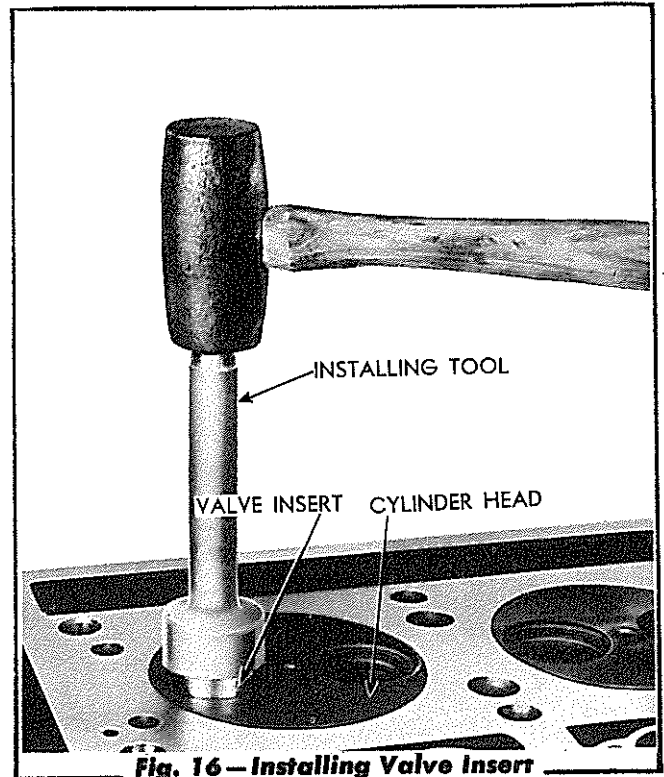

Fig. 16 — Installing Valve Insert
- d. Using the valve seat insert installing tool, shown in Fig. 16, insert the pilot end of the tool into the valve guide and drive the seat insert down tight into the counterbore. This operation must be done quickly, while the valve seat insert is cold.